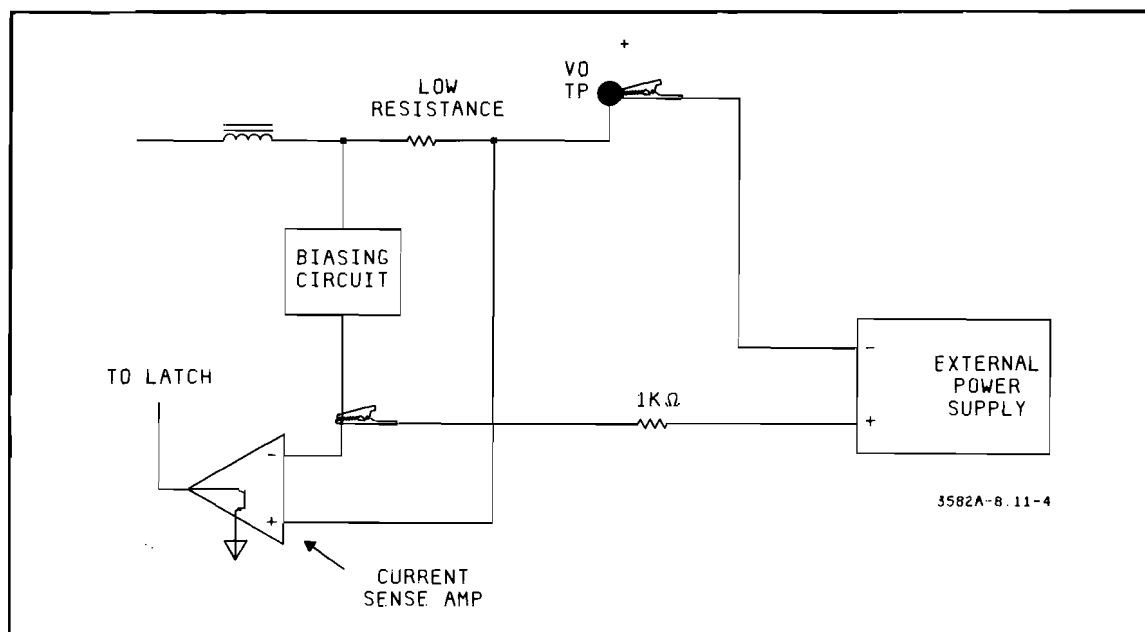

**Figure 8-11-3. Voltage Effects On Control Pulses.**
j. Increase the voltage on the external power supply until the PC board green LED indicator is on and the pulses on the oscilloscope display start to become narrower. This is the approximate output voltage of the supply under test. Further increase in voltage will cause the pulses to decrease in width, then disappear leaving a DC level (see Figure 8-11-3). If problems occur here, check the voltage sense amplifier. When finished with this portion of the check, disconnect the external power supply, but leave the oscilloscope connected for further checks.